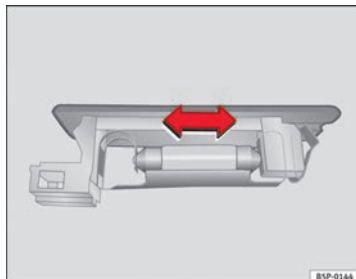

Fig. 168 Luggage compartment light
- Press the bulb sideways and remove it from its housing ⇒ Fig. 168.